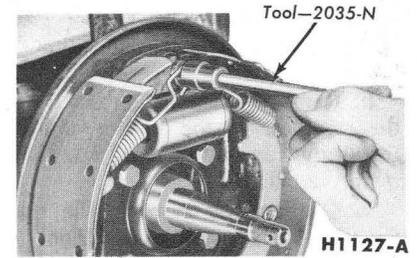
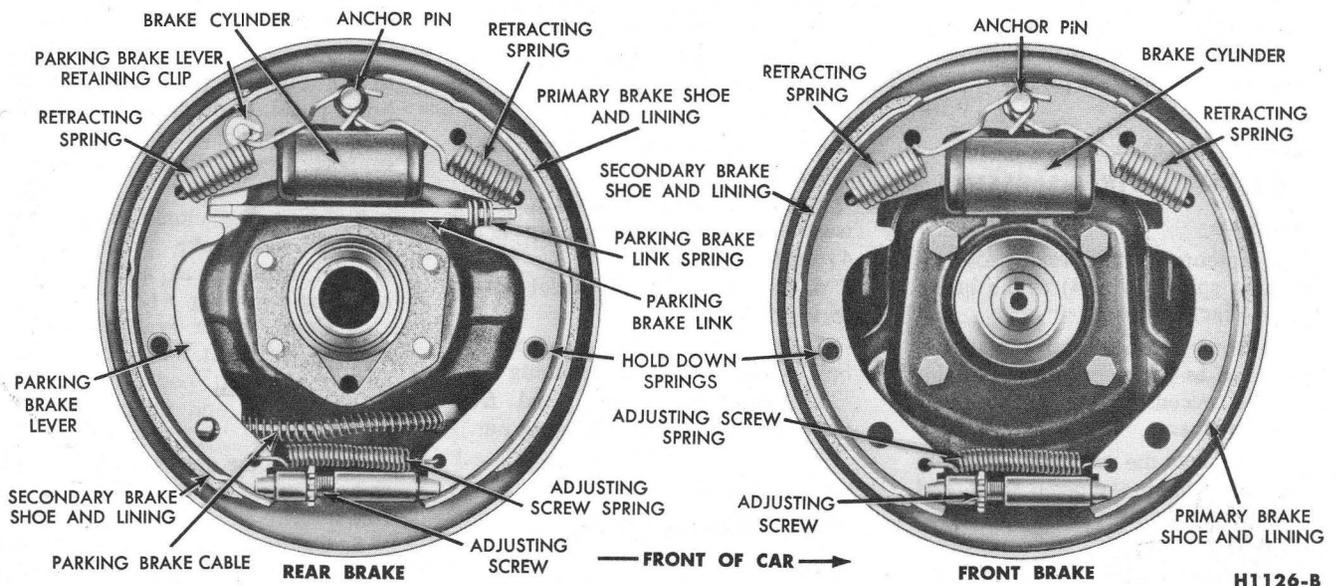

FIG. 5—Retracting Spring Removal
FIG. 6—Front and Rear Brakes
2. Disconnect the brake shoe retracting springs (Fig. 5) and hold down springs (Fig. 6).
On the rear brakes, disconnect the secondary brake shoe from the parking brake lever by removing the retaining clip (Fig. 6). Remove the parking brake lever link and spring from between the lever and the primary shoe, then remove the brake shoes from the carrier plate.
3. Insert the brake adjusting screw (Fig. 6) between the lower ends of the brake shoes so that the star wheel will be directly opposite the carrier plate adjusting hole. Install the spring at the lower end of the shoes.
On rear brakes, engage the secondary shoe with the pin on the parking brake lever and secure with the retaining clip (Fig. 6). Install the parking brake link and spring between the lever and the primary shoe.